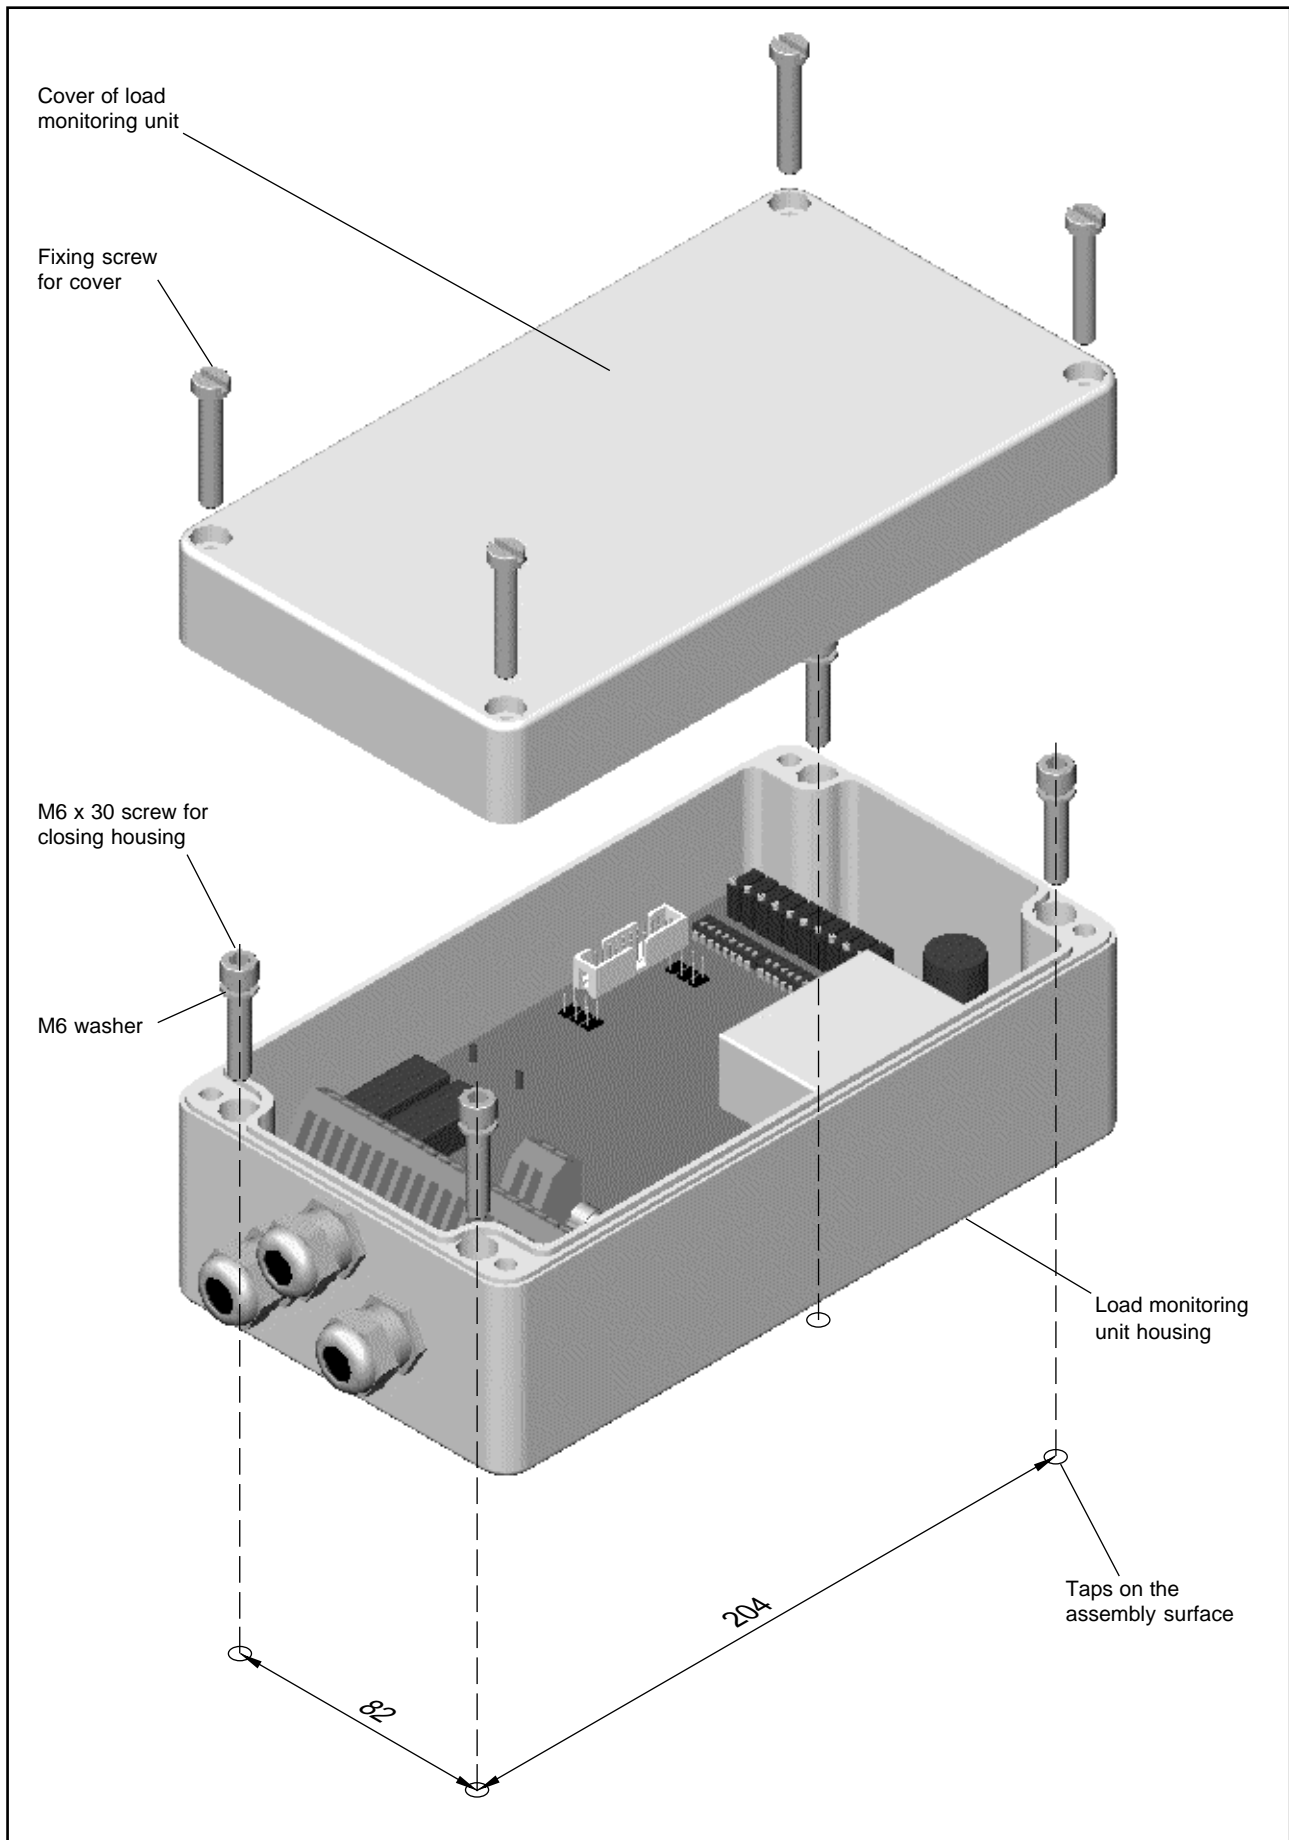

Fig. 4-1 : Installation of the LMU 112 load monitoring unit.
- Mark the position of 4 tapping points on the assembly surface (see Figure 4-1).
- Remove the cover of the load monitoring unit housing by unscrewing its four screws (see Figure 4-1).